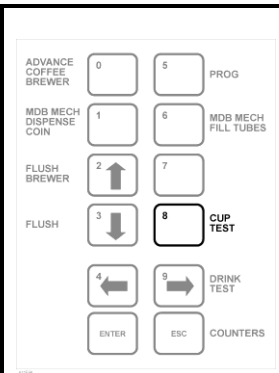

Figure 9c. Keypad Cup Test
4. Find the **internal** keypad on the left side of the door (as viewed from the rear of the door). Press the square marked "**CUP TEST**". See **Figure 9c**.